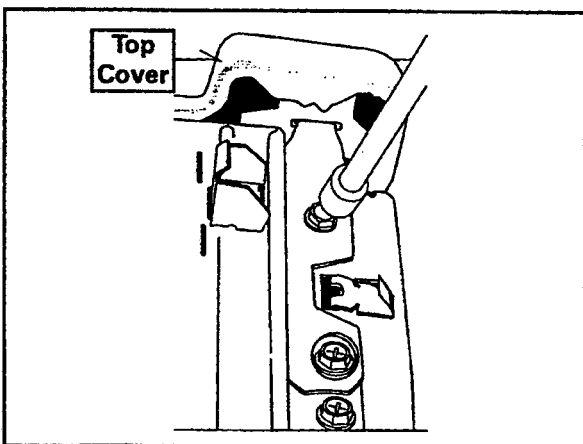

Figure 2-10
4. Remove security hooks by removing the 5/16" hex screws that secure the hook to the cabinet flange. To disengage hook, swing the hook away from the door area (Figure 2-10).